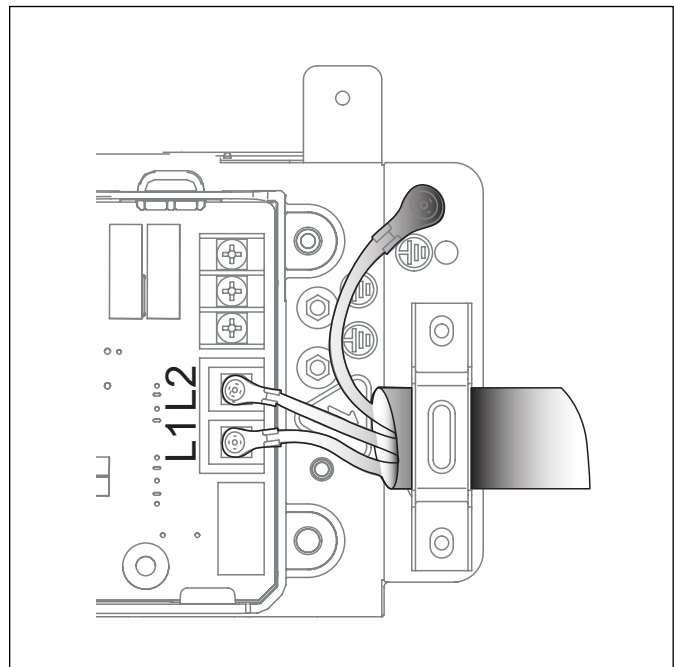

Figure 57
- Secure the power cables with the clamp shown in Figure 57 below.